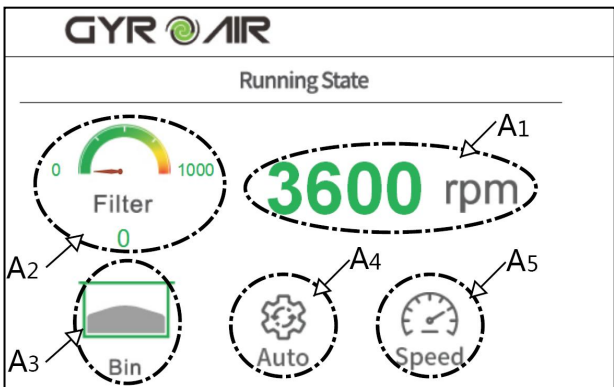

Fig.10-1
5.1.1 Running status display area A : (Fig. 10-1)